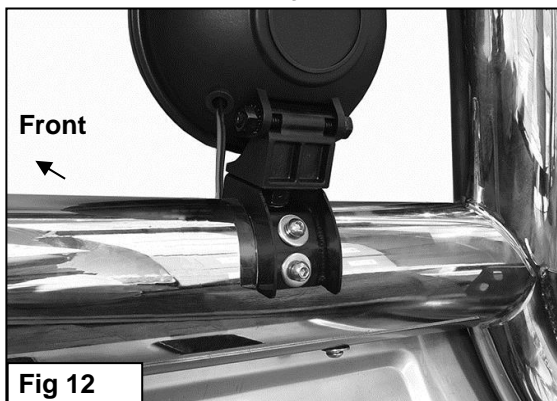

Fig 12
- a) Select (1) Light Mount, **(Figure 11)**. Use the hardware included with the light to attach the light to the top of the Light Mount. If light has a separate tilt feature, fully tighten base mounting hardware, **(See example Figure 12)**. If light adjusts with the base mounting hardware, skip to **Step 9b**.
- b) Remove the rubber plug on the top of the crossbar. Bolt the light and Light Mount to the back of the Bull Bar with the included (4) 6mm x 20mm Button Head Bolts, (4) 6mm Lock Washers and (4) 6mm Flat Washers, **(Figure 12)**. **NOTE:** If light adjusts with the base mounting hardware, hand-tighten the light hardware; do not fully tighten hardware at this time. You may have to install, adjust, remove light with Bracket and readjust a few times to get the light properly adjusted.